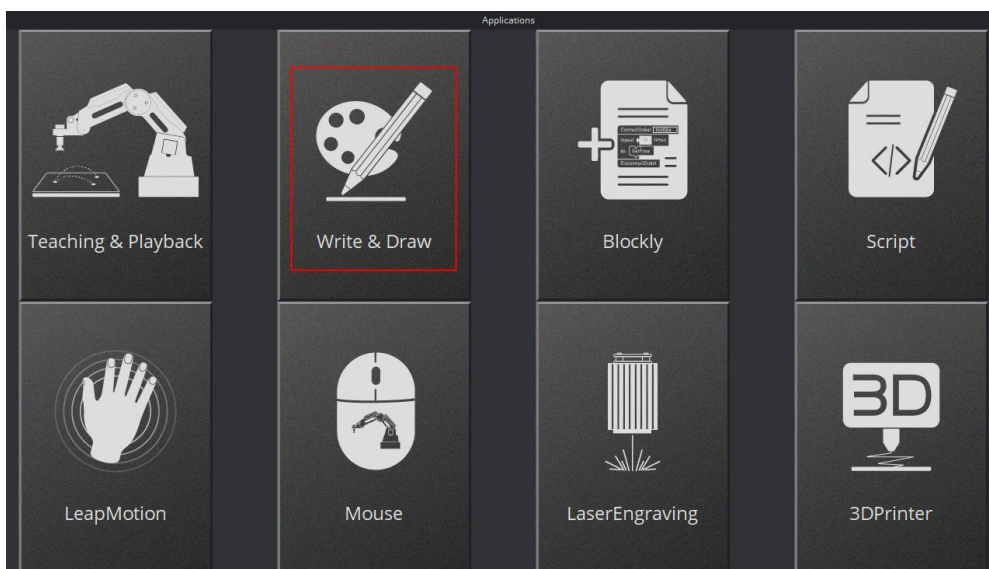

Figure 5.56 Click Write & Draw
Step 3 Click **Write & Draw** module function, as shown in Figure 5.56.